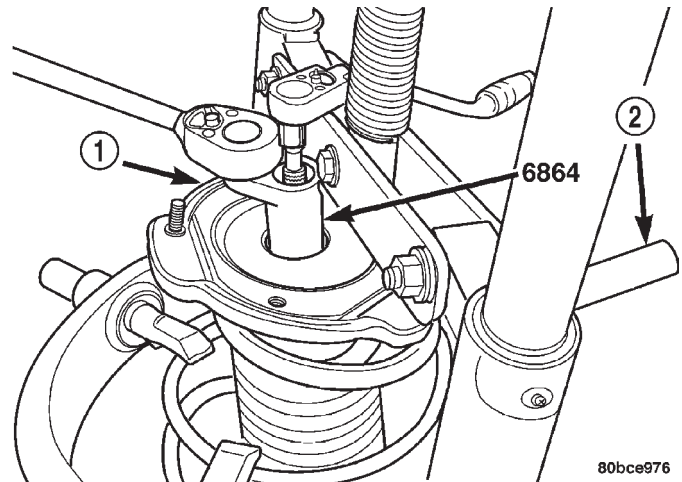

Fig. 18 Shaft Nut Removal/Installation
(3) Compress the coil spring until all coil spring tension is removed from the upper mount.
(4) Once the spring is sufficiently compressed, install Strut Nut Socket, Special Tool 6864, on the strut shaft retaining nut (Fig. 18). Next, install a socket on the hex on the end of the strut shaft. While holding the strut shaft from turning, remove the nut from the strut shaft.
(9) Loosely install the retaining nut on the strut shaft. Install Strut Nut Socket (on the end of a torque wrench), Special Tool 6864, on the strut shaft retaining nut (Fig. 18). Next, install a socket on the